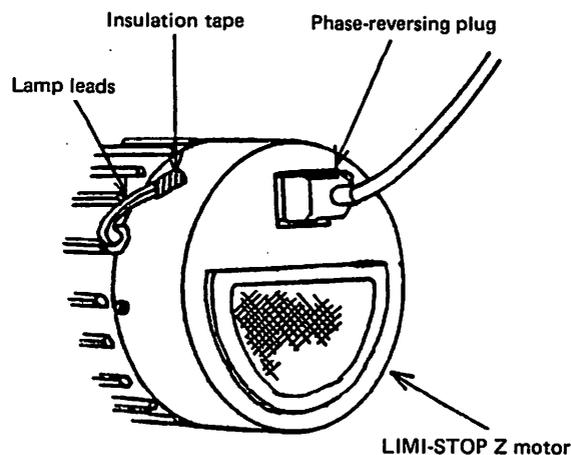

Fig. 3.6 Work lamp leads
- (1) To install a work lamp, draw out the lamp leads found at the back of the motor, remove the insulation tape, strip each lead and join them to the cord from the lamp. Apply the insulation tape after the connection.
- (2) For lamp, use that having the specified rating.
- (3) When a work lamp is not used, the two leads should be kept insulated by tape (see Fig. 3.6.)